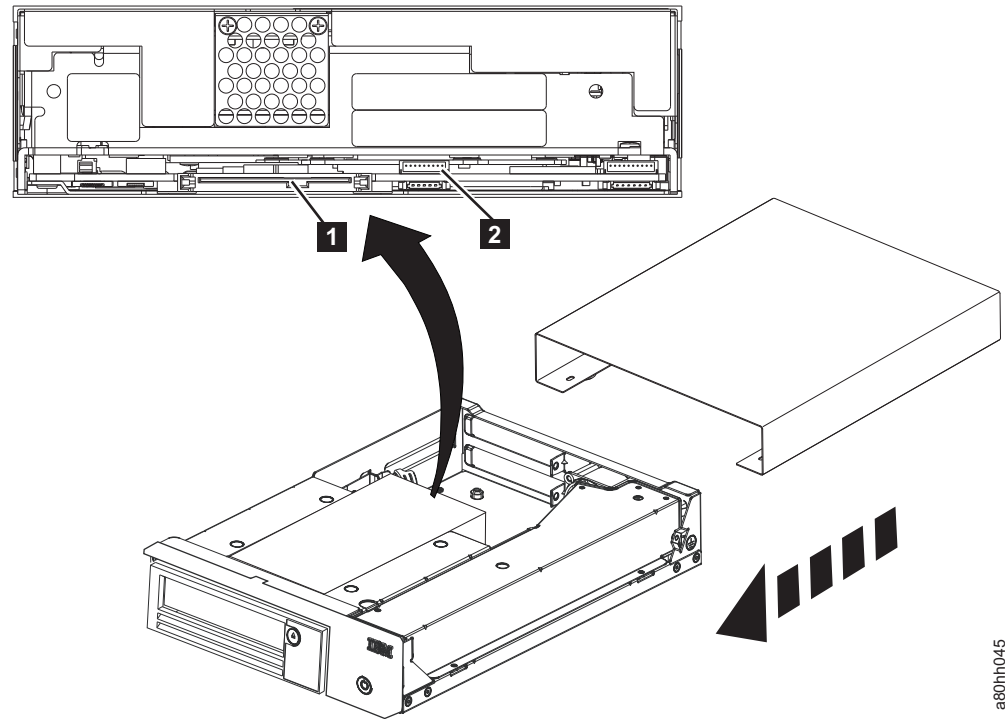

Figure E-2. Removing cables from the internal drive
6. Gently push on the drive's rear panel to remove the chassis from the cover (see Figure E-2 on page E-3).
1. Unplug the SAS interface cable and the ethernet interface cable (**1** and **2** in Figure E-2) from the drive. Disconnecting the internal SAS interface cable disconnects both the SAS interface and electrical power from the drive.